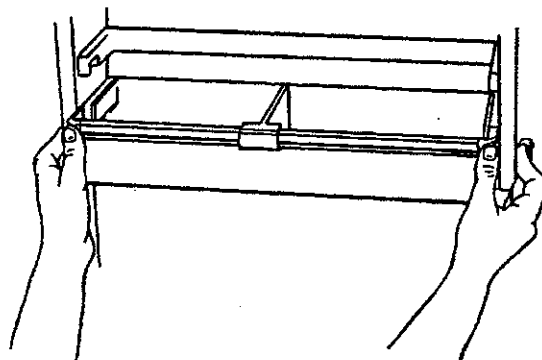

Figure 47
- d. To reinstall, use one hand at each side of bucket. Slide bucket into grooves on door. Push gently with thumbs until tabs snap and lock into place. See Figure 47.